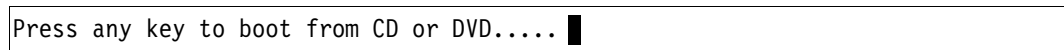

Figure 9-91 Prompt to press a key to boot from the CD or DVD
6. When the DVD starts to load, if prompted to press any key (Figure 9-91), press a key so that the DVD starts to boot. If you do not press a key, you return to the UEFI setup window.